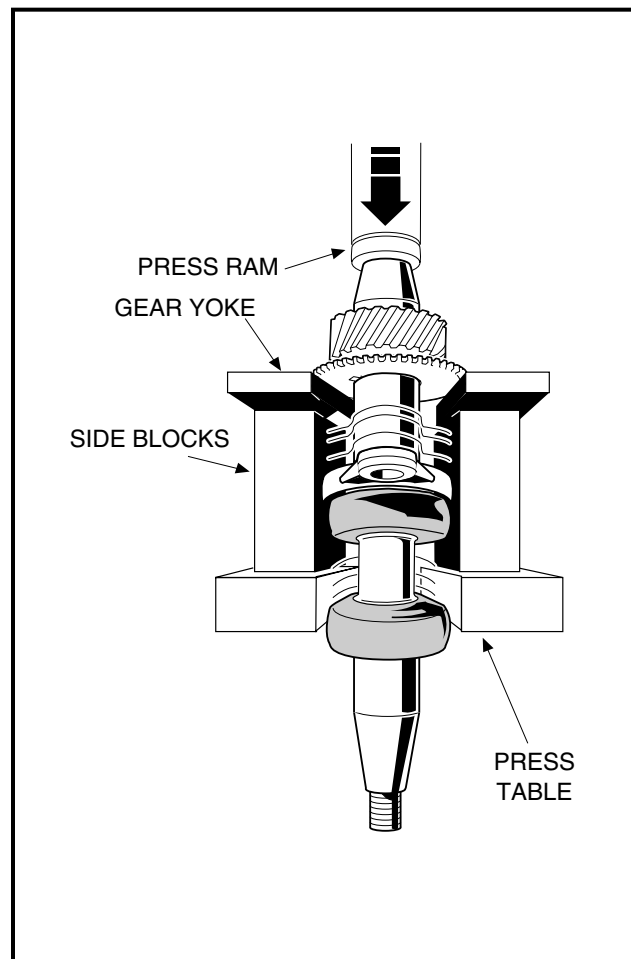

Figure 3-69 Remove Helical and Spur Gears
3. Position the gear yoke with the side blocks positioned as close to the crankshaft as possible (**Figure 3-69, Page 3-33**).